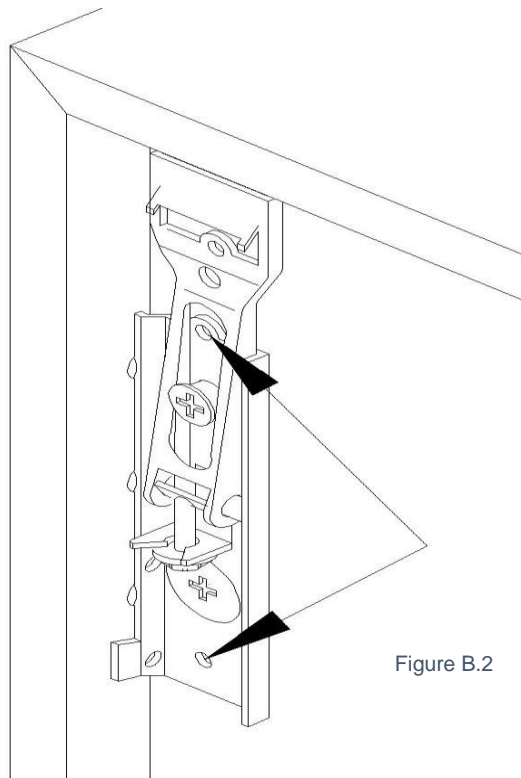

Figure B.2
2. Finish attaching the bracket using (2) #8 x 1/2" Phillips Flat Head screws along the face of the bracket. (See Fig. B.2) Once finished, repeat steps to attach the opposite side.